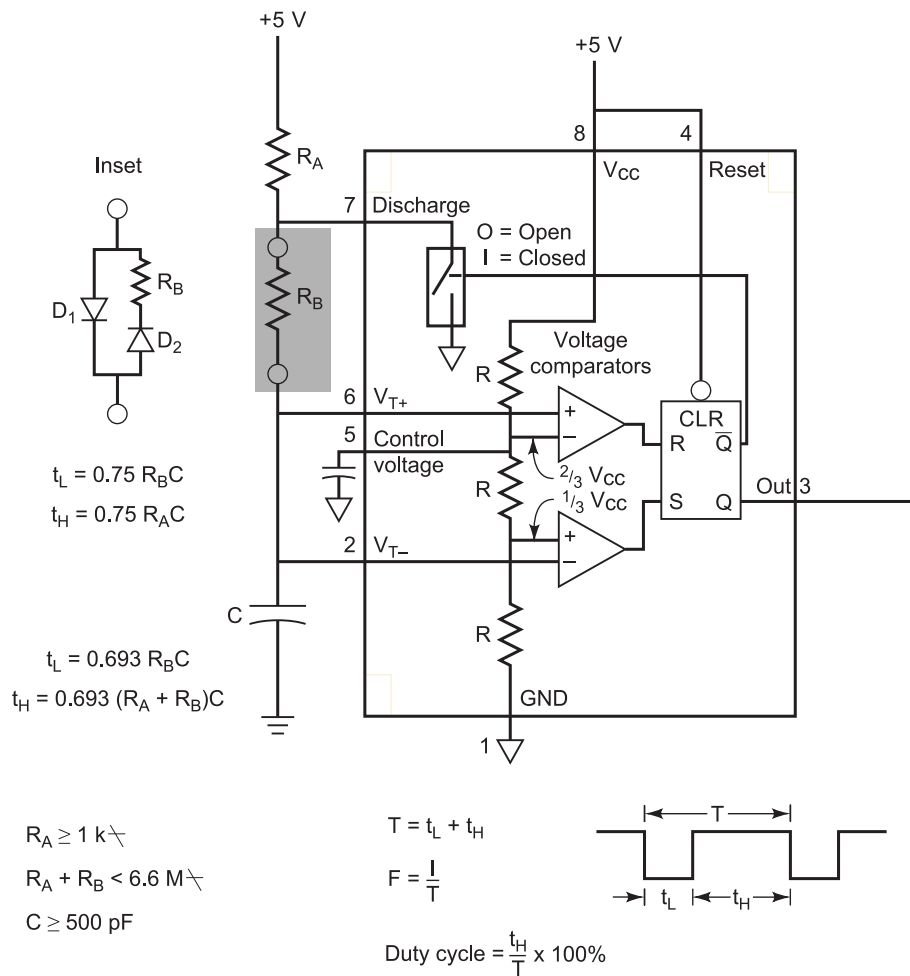

Figure 6: 555 astable multivibrator.
555 timer is made up of two voltage comparators and an S-R latch as shown in Figure 6. The voltage comparators are devices that produce a HIGH out whenever the voltage on the + input is greater than the voltage on the - input. The external capacitor (C) charges up until its voltage exceeds $\frac{2}{3} \times V_{CC}$ as determined by the upper voltage comparator monitoring V_{T+} . When this comparator output goes HIGH, it resets the SR latch, causing the output pin (3) to go LOW. At the same time, \bar{Q} goes HIGH, closing the discharge switch and causing the capacitor to begin to discharge through R_B . It will continue to discharge until the capacitor voltage drops below $\frac{1}{3} \times V_{CC}$ as determined by the lower-voltage comparator monitoring V_{T-} . When this comparator output goes HIGH, it sets the SR latch, causing the output pin to go HIGH, opening the discharge switch, and allowing the capacitor to start charging again as the cycle repeats.